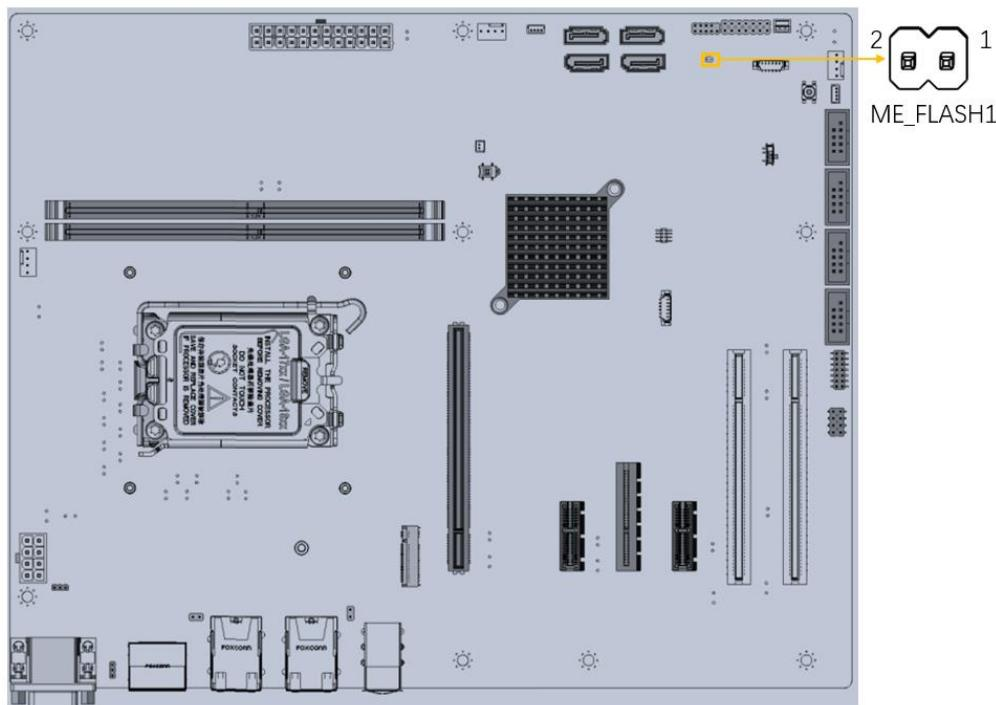

Figure 3-5: Flash Description Security Override Connector Location
- CN Location:** See **Figure 3-5**